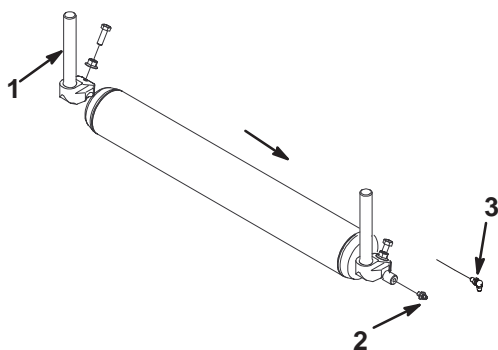

**Figure 6**
6. Mount the threaded spacer to reel frame and side plate with a 3/8-16 x 1" lg. flange bolt (9/16" wrench) (Fig. 6).